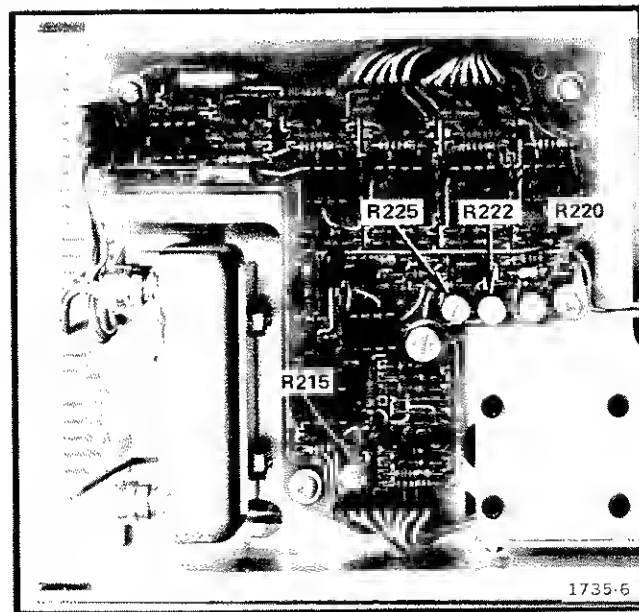

Fig. 4-3. Location of Signal Level Normalization Adjustment R215, and Output Level Calibration Adjustments R225, R220, R222.
b. Adjust the Signal Level Normalization with R215 for 1.5 V drop across R210 (Fig. 4-3).
c. Set the VAR dB control to  $-2$  and adjust the Min Output Level with R225 (Fig. 4-3) for  $-2$  dBm output level.
d. Set the VAR dB control to 0 and adjust the Max Output Level with R220 (Fig. 4-3) for 0 dBm.
e. Set the VAR dB control to  $-1$  and adjust the VAR dB Linearity with R222 (Fig. 4-3) for  $-1$  dBm.